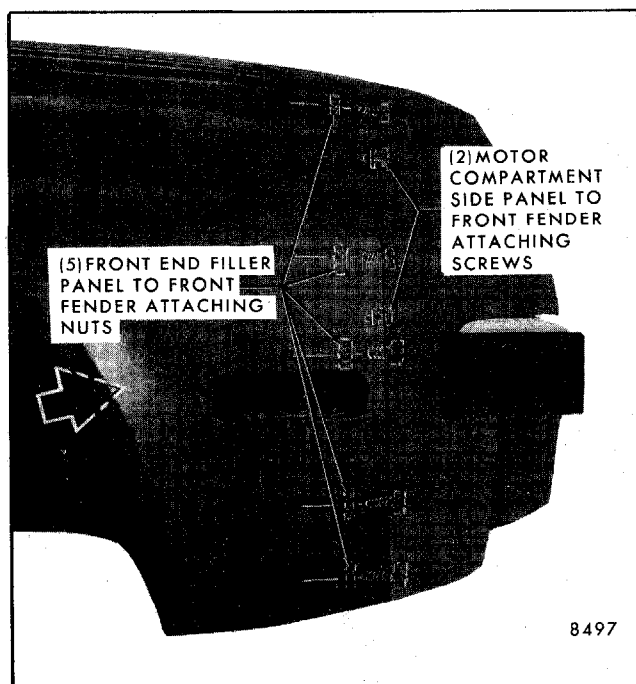

Fig. 4-33-Front of Front Fender Attachments
3. Working between front inner wheelhouse and front fender (at front), remove five front end filler panel to front fender attaching nuts (Fig. 4-33).